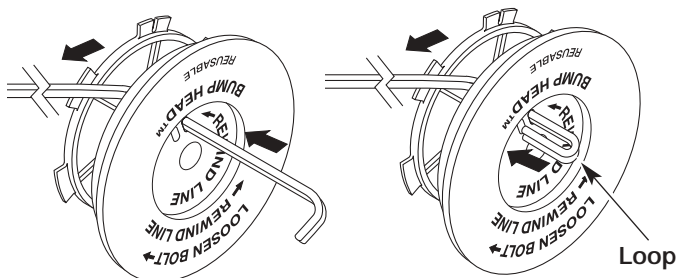

Fig. 41
8. Take approximately 8 feet (2.5 m) of new trimming line. Insert one end of the line through one of the two holes in the inner reel (Fig. 41 or 42). Pull the line through the inner reel until only about 4 inches is left out.
9. Insert the end of the line into the open hole in the inner reel and pull the line tight to make the loop as small as possible (Fig. 41 or 42).